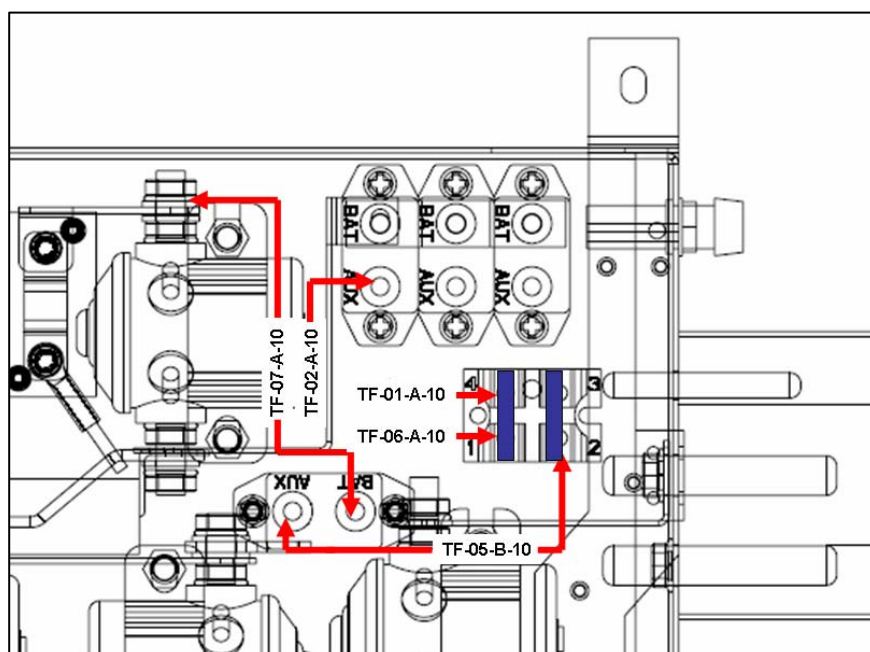

Figure 1 Before modification
- Connect line TF-07-A-10, P/N 20-3940-E101601, to the current sensor/shunt side of the alternator relay. Refer to Figure 1 and 2.